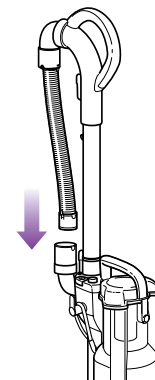

Fig. 3
- 4** Insert the stretch hose into the hose connector on the back of the unit. Make sure that it snaps in place. (Fig. 3)